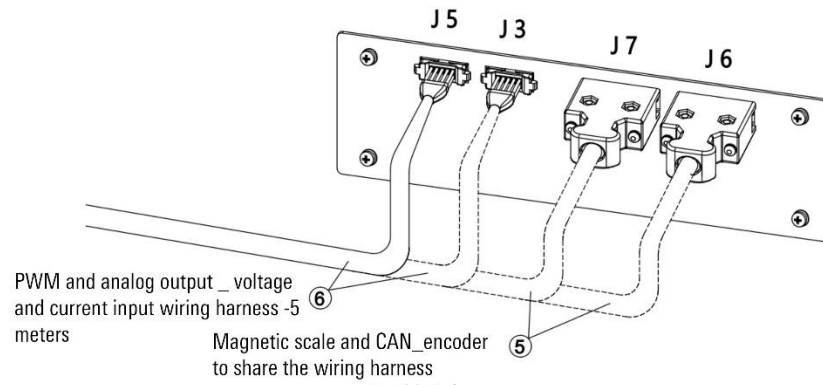

Figure 18-8 MCBS-IEB front view
Step5. Connect the outside lines of the cabinet according to the functions used, refer to Figure 18-8: